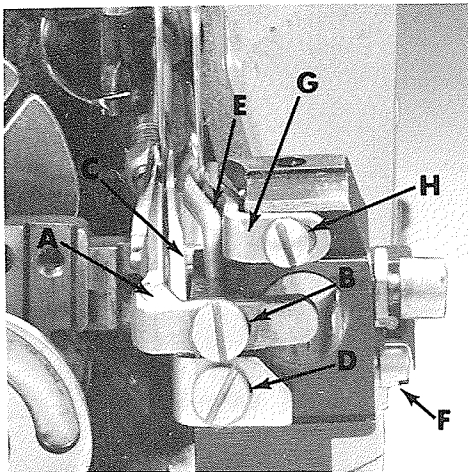

Fig. 9
When overedge lower looper point is at needle scarf, set overedge rear needle guard (A, Fig. 9) so that it touches but does not deflect the needle, .000 to .004 inch (.000 to .102 mm) clearance. Check to ensure that needle guard does not interfere with the lower looper or movement of the lower knife holder. Screw (B) is used to set the rear needle guard. The needle thread is to be free to pass through the needle eye without being pinched by the needle guard with the needle down.
With needle at bottom position, set front overedge needle guard (C, Fig. 9) to touch but not deflect needle, .000 to .004 inch (.000 to .102 mm) clearance. Guard should not pinch thread in needle eye. Screw (D) is used to set front needle guard. After making adjustment, make sure there is no interference between needle guards and differential feed dog.
When 401 looper point is at the center of the needle scarf, set 401 rear needle guard (E, Fig. 9) so it touches but does not deflect needle, .000 to .004 inch (.000 to .102 mm) clearance. This guard setting will be approximately 3/16 to 7/32 inch (4.76 to 5.56 mm) below throat plate seat. With needle in down position, guard should not pinch thread in needle eye. Then lock the guard in place with set screw (F).
With needle at bottom position, set front 401 needle guard (G, Fig. 9) to touch but not deflect needle, .000 to .004 inch (.000 to .102 mm) clearance. Guard should not pinch thread in needle eye. Check for clearance between 401 looper and front 401 needle guard. Turn handwheel in operating direction, making complete revolutions to check whether needle is disturbed or pinched. Lock with screw (H).